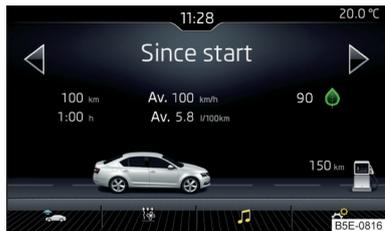

Fig. 226
▶ Press the **CAR** / **MENU** →  button to display the main menu with the following function surfaces » Fig. 226.